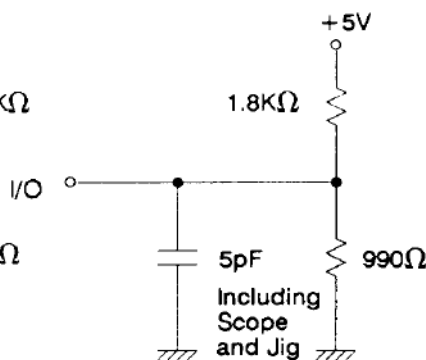

Figure 1b
1.  $t_{OHZ}$ ,  $t_{CHZ}$  and  $t_{WHZ}$  are tested with  $C_L = 5pF$  as in Figure 1b condition is measured  $\pm 500mV$  from steady state voltage.
Note :  $t_{OHZ}$ ,  $t_{CHZ}$  and  $t_{WHZ}$  are tested with  $C_L = 5pF$  as in Figure 1b condition is measured  $\pm 500mV$  from steady state voltage.